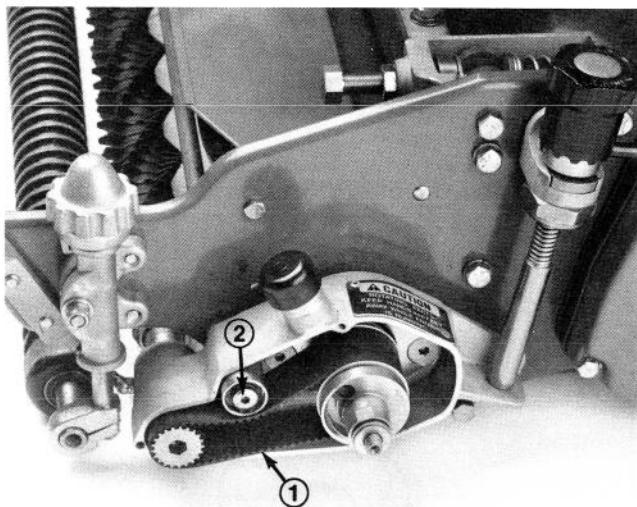

Figure 10
D. Position the toothed belt over the drive pulley (that was removed from the clutch in step 10). While holding the belt on the drive pulley, simultaneously slide the drive pulley back into place on the clutch adapter and position the belt around the driven pulley and under the backside idler (Fig. 10).
2. Belleville washers (2)
F. Check the tension on the drive belt by depressing it at the midpoint between the drive pulley and the driven pulley (Fig. 10). A force of 5 to 10 lbs. should be required to depress the midpoint of the belt 1/4 inch. To adjust tension, loosen the backside idler pulley pivot allen head bolt, pivot the idler to achieve the